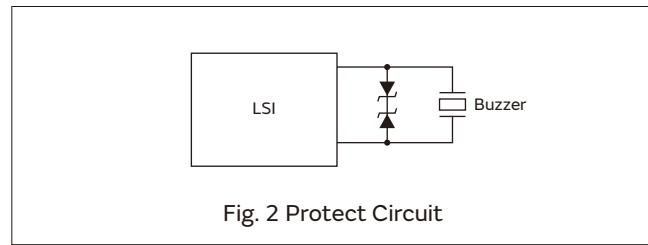

Fig. 2 Protect Circuit
3. Please do not drop the product or apply shock or temperature change to it. If so, the LSI might be destroyed by the charge (surge voltage) generated. Fig. 2 shows an example driving circuit using zener diode.